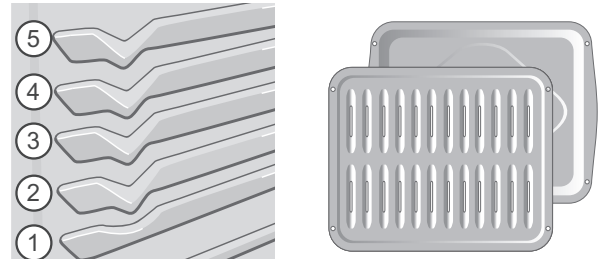

Figure 11: Broil rack positions and broil pan insert
3. Place the insert on the broiler pan (if equipped), then place the food on the insert. Do not use the broiler pan without the insert or cover the insert with aluminum foil (Figure 11). The exposed fat could ignite.